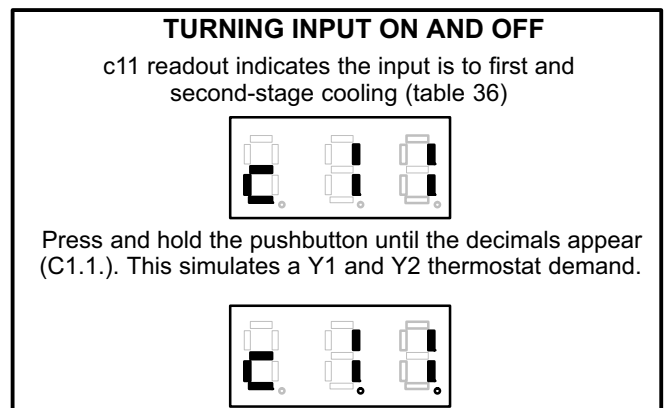

FIGURE 56
- 2-Press and hold the pushbutton to turn "ON" an output. A decimal indicates the output is energized. Press and hold the pushbutton until the decimal disappears. This indicates the output is turned "OFF". See figure 56.